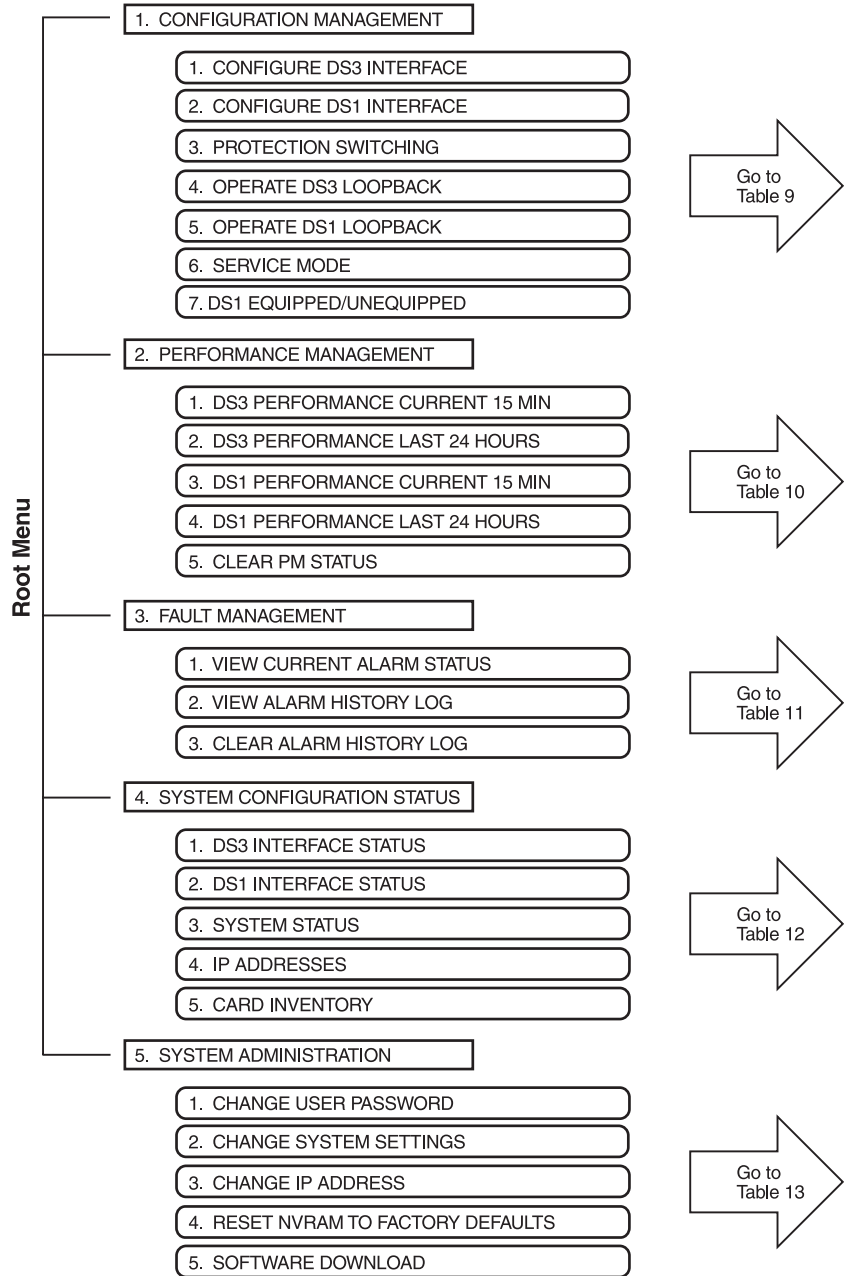

Figure 34. Root Menu Options
- Figure 34 on page 62 is a graphical representation of the basic menus and submenus available from the Root Menu.
3	Type 1 to select the Configuration Management submenu (Figure 34 on page 62).